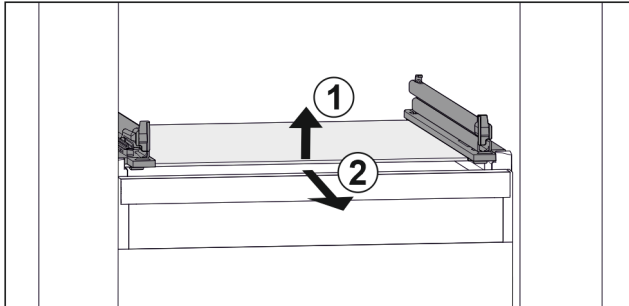

Fig. 148 Example illustration of glass shelf
- ▶ Lift glass shelf at the front. Fig. 148 (1)
- ▶ Take out glass shelf to the front. Fig. 148 (2)